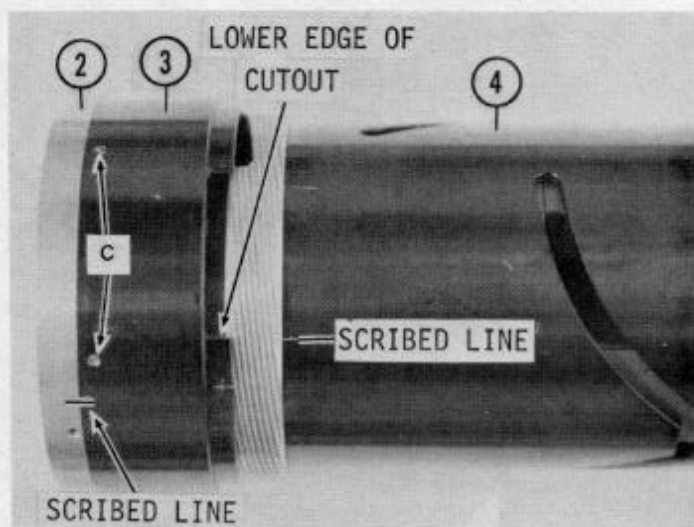

Fig. 13
- 2.1.13 Rotate Outer Helicoid (3) very slowly counterclockwise, carefully noting the exact point of separation of threads of Outer Helicoid and Lens Barrel. At this point, scribe a reference line on Lens Barrel, in line with lower edge of cutout in Outer Helicoid. (Fig. 13)
- 2.1.14 Loosen six setscrews (C), which attach Infinity Stop Ring to Outer Helicoid. (Fig. 13)
- 2.1.15 Remove Infinity Stop Ring (2) (together with First Lens Group, which is screwed into it). (Fig. 13)
- 2.3.6 Tighten six setscrews (C, Fig. 13) to clamp the Outer Helicoid to the Infinity Stop Ring.